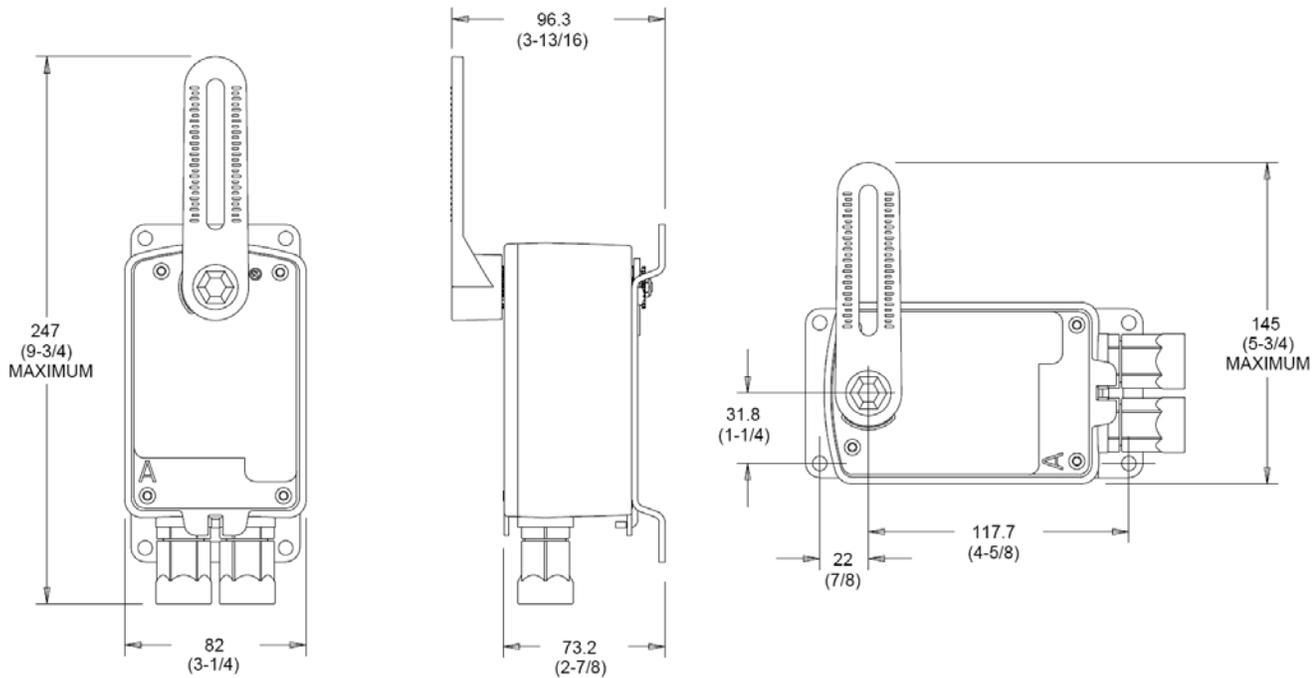

Figure 2: M9203-115 Remote Mounting Kit Overall Dimensions, mm (in.)
See Figure 2 for overall dimensions and proper mounting orientations.
3. Using the two No. 8 Thread Forming Phillips Screws, secure the actuator to the mounting bracket as shown in Figure 2. Use the recommended torque of 1.7 to 2.3 N·m (15 to 20 lb·in).